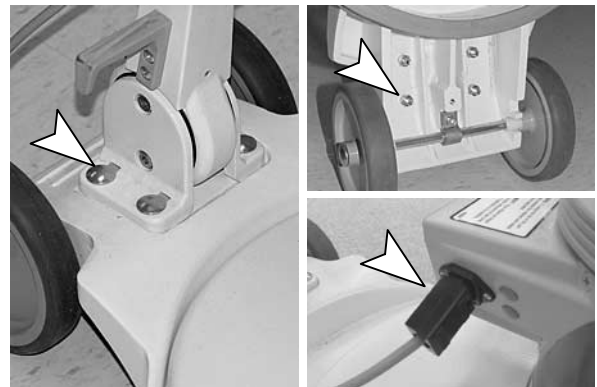

FIG. 1
1. Position the handle assembly on the base as shown. Insert (4) screws, supplied, through the top of the handle support and into the machine base. From bottom side of base, secure screws with nuts and washers (12 N-m / 8.85 ft-Lbs torque), 13 mm wrench required (Figure 1).
2. Connect the power cord into the switch housing receptacle (Figure 1).